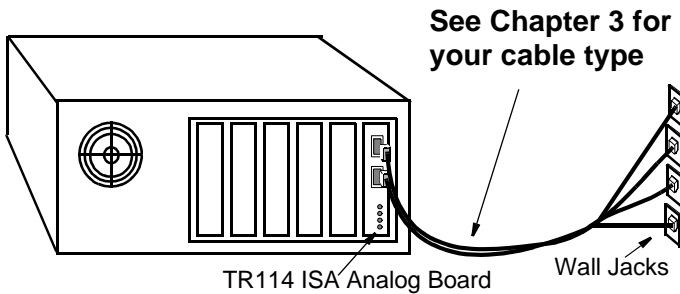

Figure 2-3. Connecting TR114 Cables to Telephone Service
2. Plug the end with a DB9 or RJ-45 connector into the jack on the TR114 board (see Figure 2-3).
4. Plug the other end of the cable into a loop-start wall-mounted telephone jack, as shown in Figure 2-3.